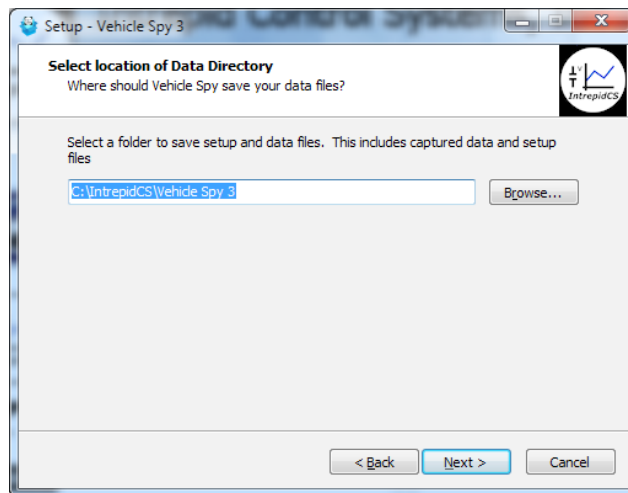

Figure 14: Selecting the Vehicle Spy 3 Data Directory Location.
8. **Select Data Directory Location:** Next, choose where you want Vehicle Spy 3 to store its data files. We recommend sticking with the provided default, *C:\IntrepidCS\Vehicle Spy 3* (Figure 14). Click **Next >** to continue.